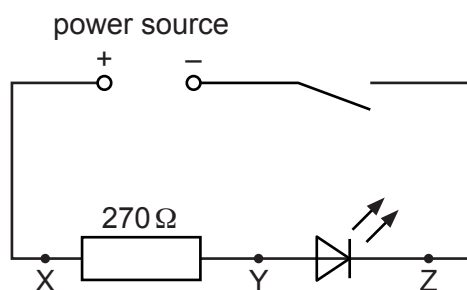

Fig. 2.1
- sufficient connecting leads to assemble the circuit shown in Fig. 2.1 (see Note 5).
4 The resistors should be clearly labelled with the value of their resistance. The 470 Ω and 560 Ω resistors must be placed by the side of the circuit shown in Fig. 2.1.
5 The supervisor must assemble the circuit shown in Fig. 2.1 for the candidates in advance of the exam. The LED should light when the switch is closed to show it is connected the right way round.
The circuit must be restored to its original state shown in Fig. 2.1, with the switch open and the voltmeter disconnected from the circuit. The $270\ \Omega$ resistor should be connected into the circuit and the $470\ \Omega$ and $560\ \Omega$ resistors placed at the side. Check that the LED lights when the switch is closed.